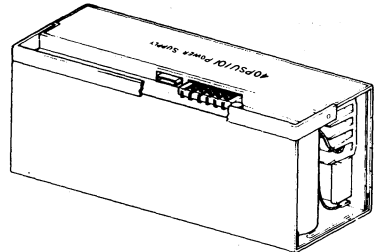
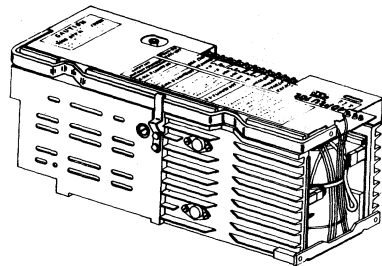

Fig. 1—40PSU101 Power Supply
Fig. 2—40PSU102 Power Supply
- 1.01 This section provides testing and troubleshooting information for the major components of the DATASPEED 40PSU101 (Fig. 1) and the DATASPEED 40PSU102 (Fig. 2) power supply units.